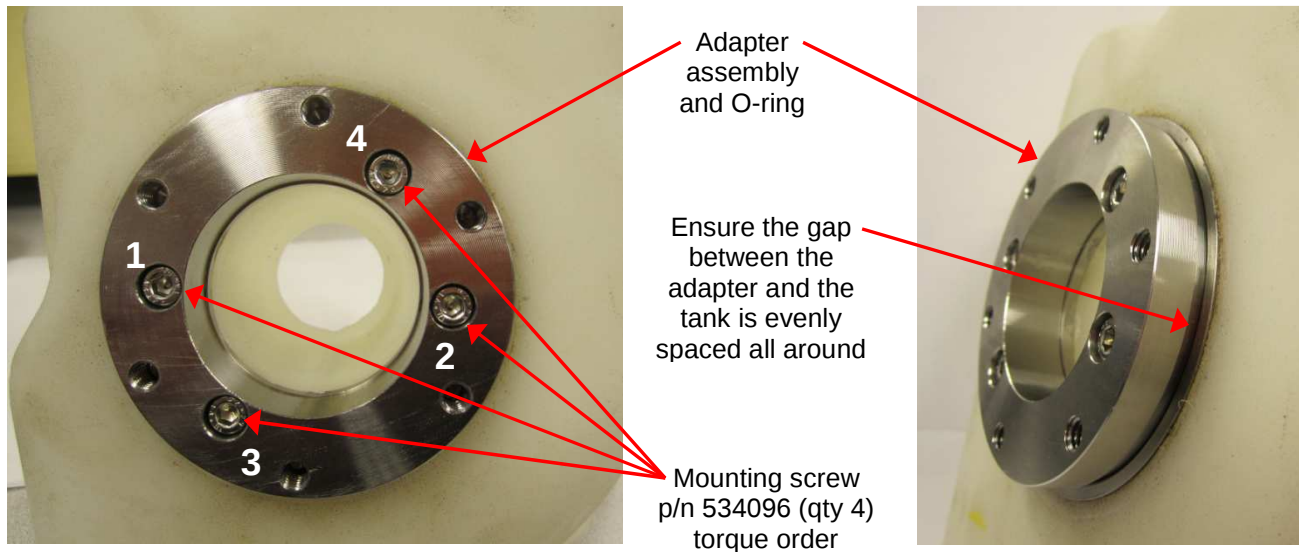

Figure 3: Adapter Assembly and O-ring Mounting Screw Torque Order
7. Install the adapter and lubricated o-ring from Step 5 onto the DEF tank opening of existing DEF tank as shown in Figure 3. Care is to be taken to insure that the o-ring seats evenly into the stainless steel recess on the tank. It will be necessary to apply constant pressure on the adapter to prevent it from backing off while rotating it to line up the mounting holes. While still applying pressure on the adapter loosely install the mounting screws. Torque the screws to 10-12 in*lbs in the order shown in Figure 3.